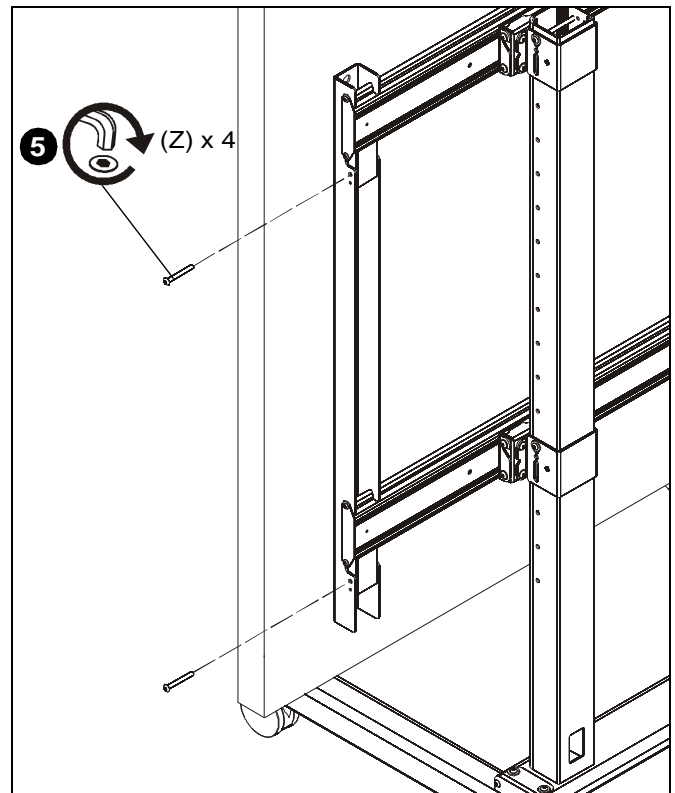

Figure 9
5. Use four 5/16-18 x 2 1/2" button head cap screws (Z) to secure interface brackets (L) to rails. (See Figure 9)